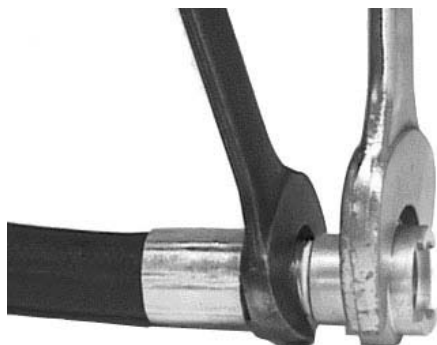

Figure 11-2. Remove Whip Hose from Q.D. Assembly
3. Using a 2-inch open-end wrench to hold the Quick Disconnect (Q.D.) Socket (19) in place, use a 1-3/8-inch open-end wrench to loosen and thread the hose fitting of Whip Hose (18) from the Q.D. Socket. Refer to Figure 11-2.